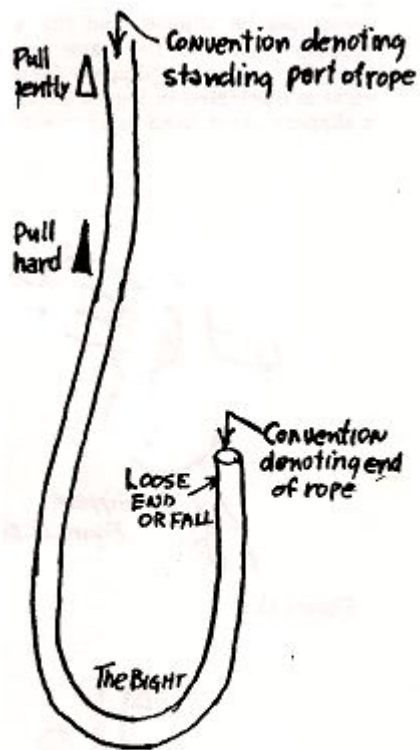

Figure 10 Rope Terminology
**The bight, loose end and standing part:** These are the parts of a rope as illustrated in Figure 10.